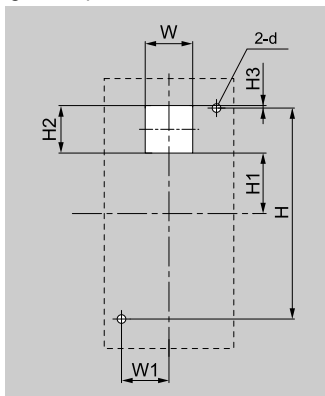

Figure 5.13 External/Face Mount Enclosure Panel Cut-Out Dimensions
1. Use the dimensions in Table 5.4 and Figure 5.13 to cut an opening and tap two holes in the enclosure panel.